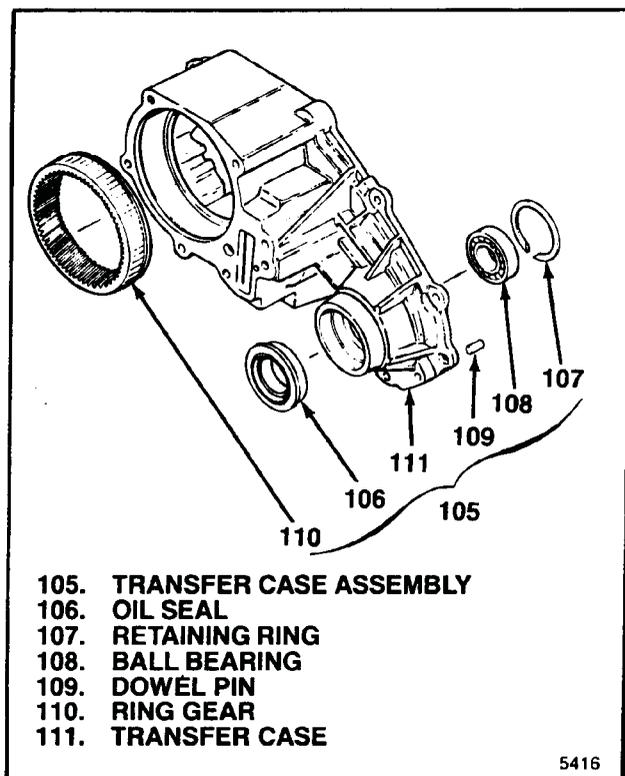

Figure 3-13. Transfer Case Assembly
- b. Slide electric shift cam (100) off shift shaft (103).
- c. Clamp retainer end of shift shaft (103) in soft-jawed vise. Keeping fingers away from spring ends, pry torsion spring (101) out of engagement with shaft drive tang using a screwdriver. Remove torsion spring and spacer (102) from shift shaft.
3-18. DISASSEMBLY OF TRANSFER CASE ASSEMBLY. Disassemble transfer case assembly (105) as follows (see figure 3-13):
- a. Pull oil seal (106).
- b. Remove retaining ring (107) and pull ball bearing (108).